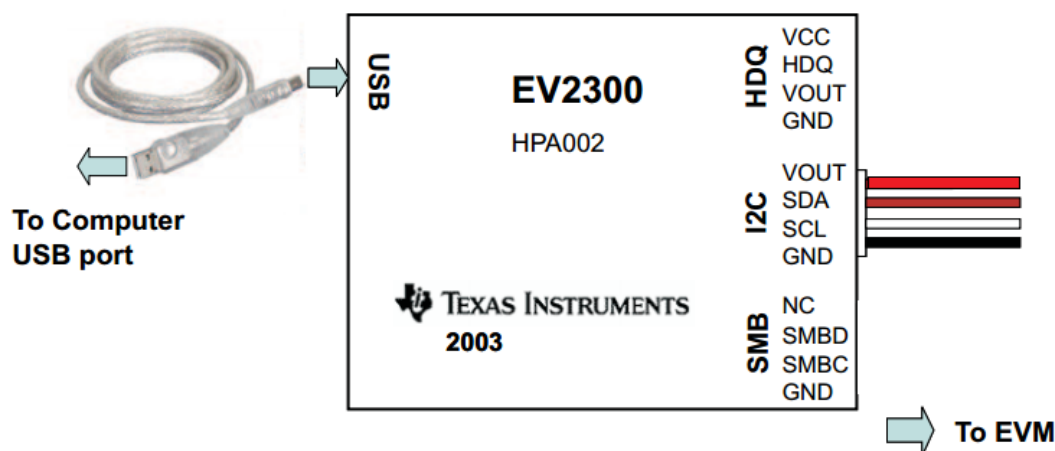

Figure 2. Connections of the EV2300
6. Connect the EV2300 USB interface board to the computer with a USB cable and from I2C port to J8 as shown in Figure 2.